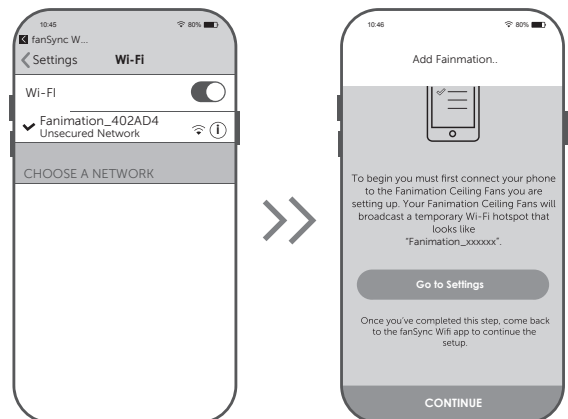

Figure 6
- ☐ 6. In the WiFi settings on your smart device, select the Fanimation_XXXXXX device and return to the fanSync WiFi APP and press "CONTINUE". (Figure 6)